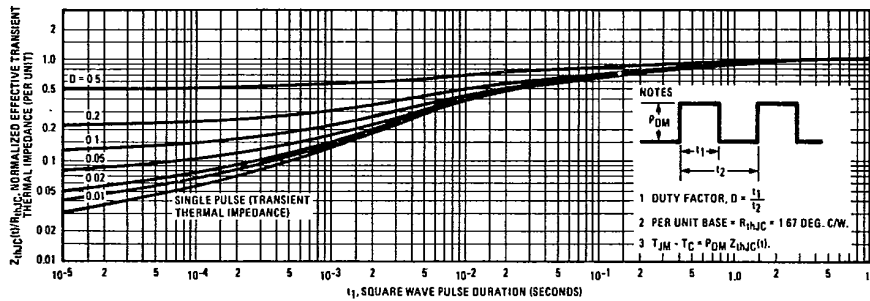

Fig. 5 - Maximum Effective Transient Thermal Impedance, Junction-to-Case Vs. Pulse Duration
① T_J = 25°C to 150°C. ② Pulse Test Pulse width < 300µs, Duty Cycle < 2%. ③ Repetitive Rating Pulse width limited by max junction temperature See Transient Thermal Impedance Curve (Fig. 5).